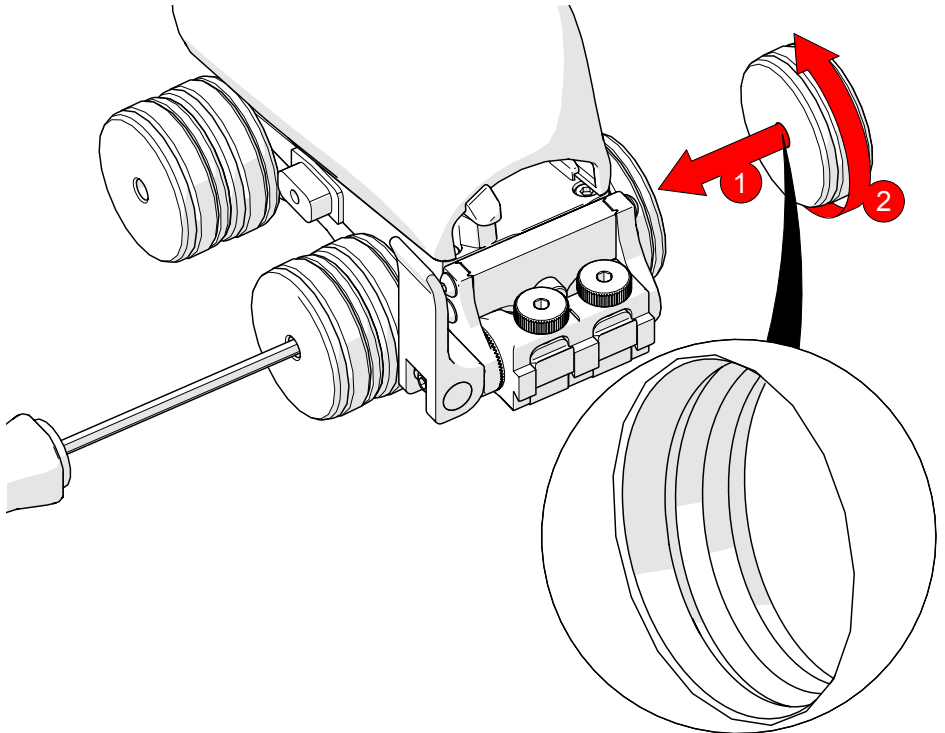

Fig. 83 - Magnetic wheel kit
An additional magnetic wheel kit can also be used on the cart body, thus doubling the magnetic force (Fig. 83).
2. On the magnetic wheel to be attached, locate the threaded side of the magnetic wheel, and orient the threaded side towards the cart (Fig. 83).